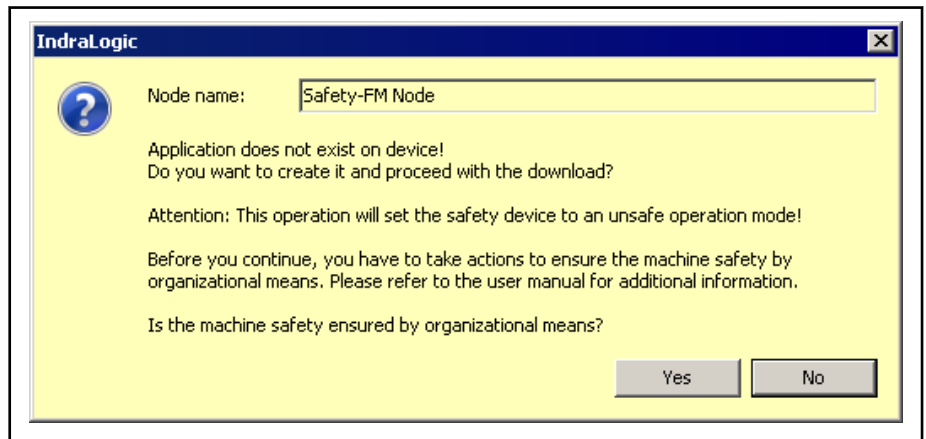

Fig. 8-2: Dialog box when logging in to an "empty" control
- If there is no application on the control, a dialog box asks if the application should be loaded to the safety control (see fig. 8-2 "Dialog box when logging in to an empty control" on page 119). If the application is loaded (download) to the safety control, the safety control is in **Debug Operation**. The application is in online mode.